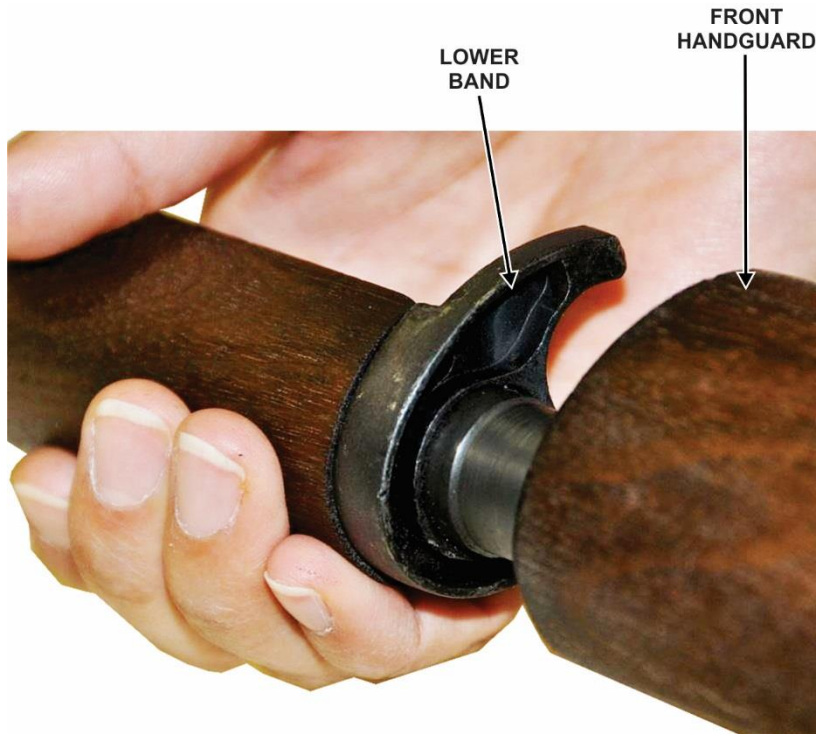

Figure 30. Front hand guard insertion
- 1) Replace the front hand guard by sliding it over the muzzle and ensuring that it is seated properly in the lower band (fig 30).